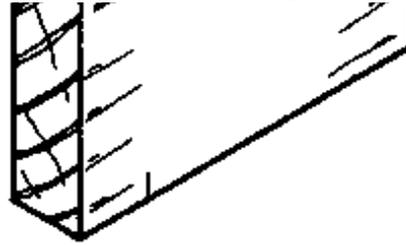

Fig. 3
- Mark out the position of the tenons and slots by gauging or squaring lines at the corners on the ends of the pieces: on piece A the depth should be equal to the thickness of piece B (Fig. 2); while on piece B the depth should be equal to the thickness of piece A (Fig. 3). Allow 2 mm waste for cleaning up after assembly.